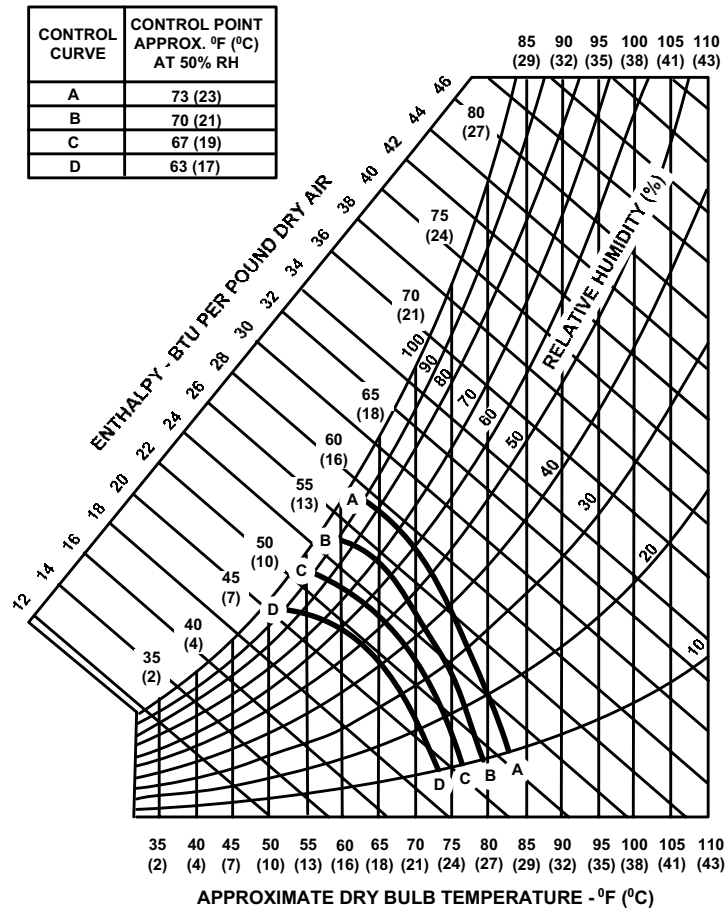

FIGURE 22 - ENTHALPY SET POINT CHART
The enthalpy set point may now be set by selecting the desired set point shown in the Enthalpy Set Point Adjustment Figure 22. Adjust as follows:
- For a single enthalpy operation carefully turn the set point adjusting screw (found on the damper control module) to the "A", "B", "C" or "D" setting corresponding to the lettered curve of the Enthalpy Set Point Adjustment Figure 22.